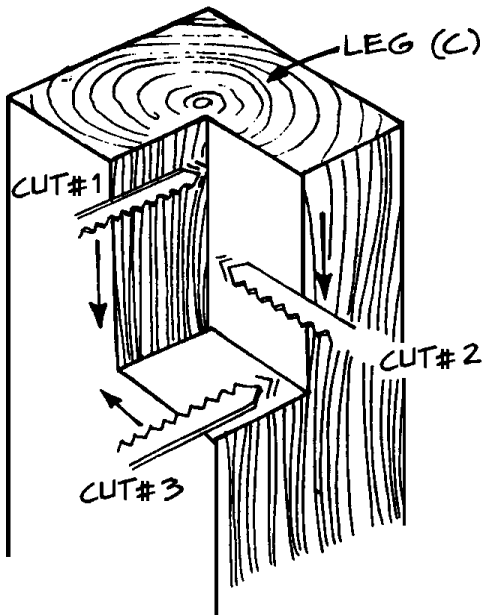

Figure 2
1. Cut each of the four newel posts to 14-1/2" long. These will be the legs (C). In order to support the side rails of the coffee table, we have to remove a corner section of the wood from the square top of each of the four legs (C). This maneuver is designed to eliminate the need for making blind dados.
2. Set the depth of your saber saw to 1-3/4 inches. Make three cuts in the order shown in *Figure 2*. The blade edges in the drawing indicate the direction of the cuts. If you use a chisel instead, use the illustration to guide your cuts. Cut and remove a